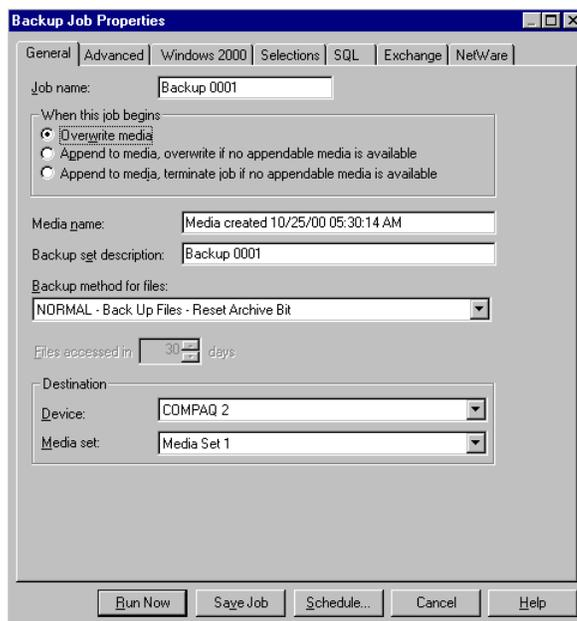

Figure 8: General backup job properties dialog
2. Ensure that the backup job is set to overwrite media and that the backup method is set to Normal, as shown in Figure 8.